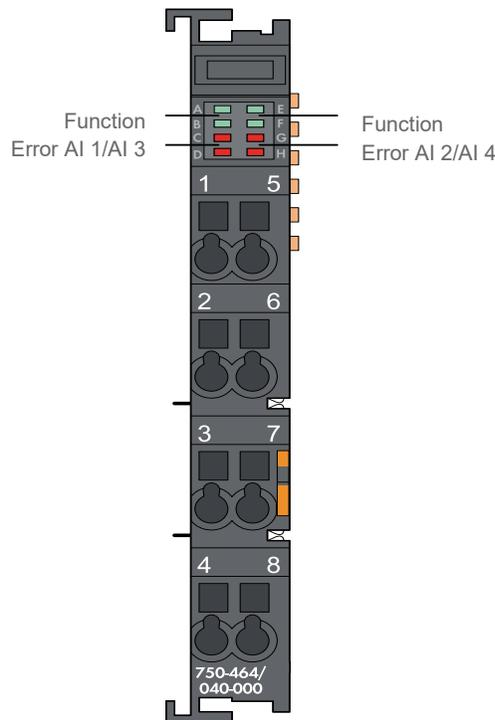

Figure 9: 2-channel analog input module (RTD), 750-464
Refer to Figure 9 and Table 2 and follow the steps below to connect the temp. sensors.
4. Connect the connection cables to the connection terminal for temperature sensors (Figure 9). Refer to Table 2 for the correct wire assignment.